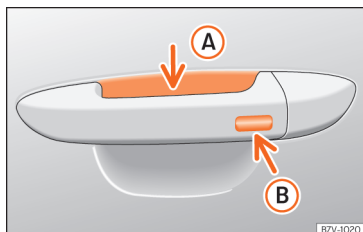

Fig. 68 Driver door lever: sensor surfaces.
»» Fig. 68
- Touch the sensor surface >>> Fig. 68 Ⓑ on the outside of the door handle. All turn signals flash once.
- Within 5 seconds, touch the sensor on the outside of the door handle >>> Fig. 68 Ⓑ once. Do not grip the handle while doing so. This temporarily deactivates the Keyless Access system.
To close all the electric windows and the sunroof using the **comfort function**, keep a finger for a few seconds on the locking sensor surface >>> Fig. 68 Ⓑ of the door handle until the windows and roof have closed.